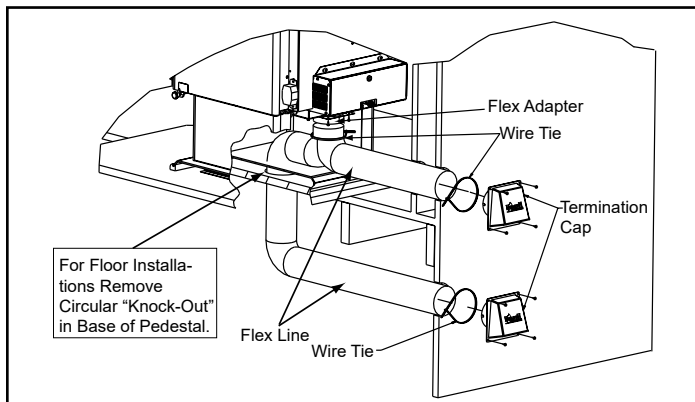
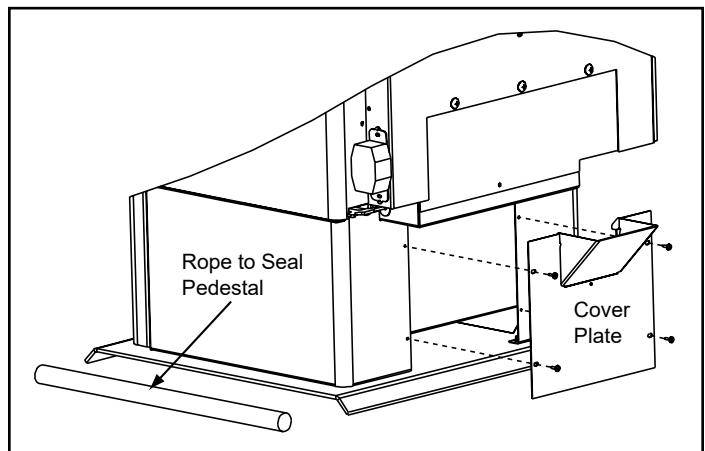

Figure 17.1 - Floor & Rear Installation
Figure 17.2
- Refer to **AS/NZS 2918:2001 4.9.1**, see **Figure 17.2** on **page 23**.
Included in SRV7033-041: Cover plate and sealing rope (see Floor Installation Alternative below, **Figure 17.2**)
2. Using a #2 Phillips screw driver attach the flex adapter to the appliance using 4 screws (**Figure 17.1**)
5. **Floor Installation Alternative:** In some instances you may not be able to install the flex pipe as show in **Figure 17.1**. If that is the case, you will need to order SRV7033-041 which includes a cover plate and sealing rope as shown in **Figure 17.2**. The goal is to seal the pedestal so no room air can leak into the pedestal or for cold air infiltration.